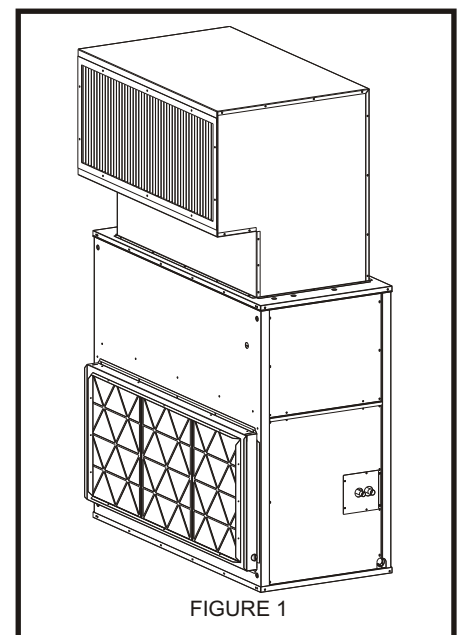

FIGURE 1
2. Locate plenum front panel (A) and mount to the air handler using holes provided in the unit top pan.
3. Attach left side panel (B) to the air handler top pan and plenum front panel. Repeat for right side panel (C).
4. Attach back panel (D) to air handler and secure to both side panels (B & C).
5. Add top pan (E) to the assembly and secure both sides.
- b. Adjust outlet air pattern of register based on application and louver deflection settings provided. (**See Figure 1**)